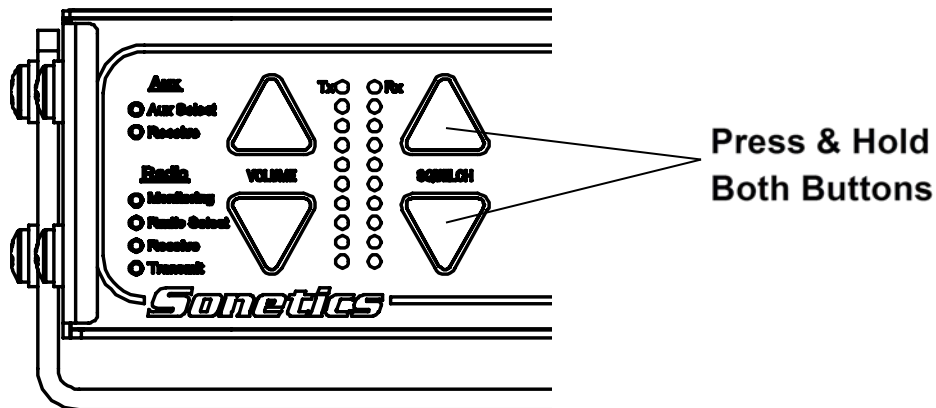

FIGURE 15
1. To enter **Headset Squelch Adjust Mode**, simultaneously press and hold Squelch up and Squelch down buttons for 5 seconds. (FIGURE 15)